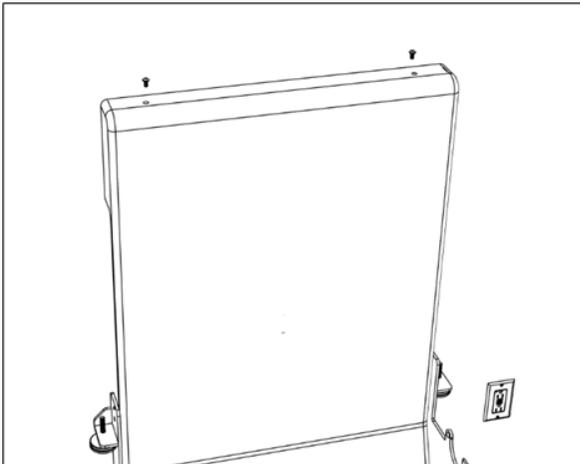

Figure 4 - Cover Bolt Location (top)
- Remove the two (2) ¼" pan-head bolts from the top of the cover (refer to Figure 4).